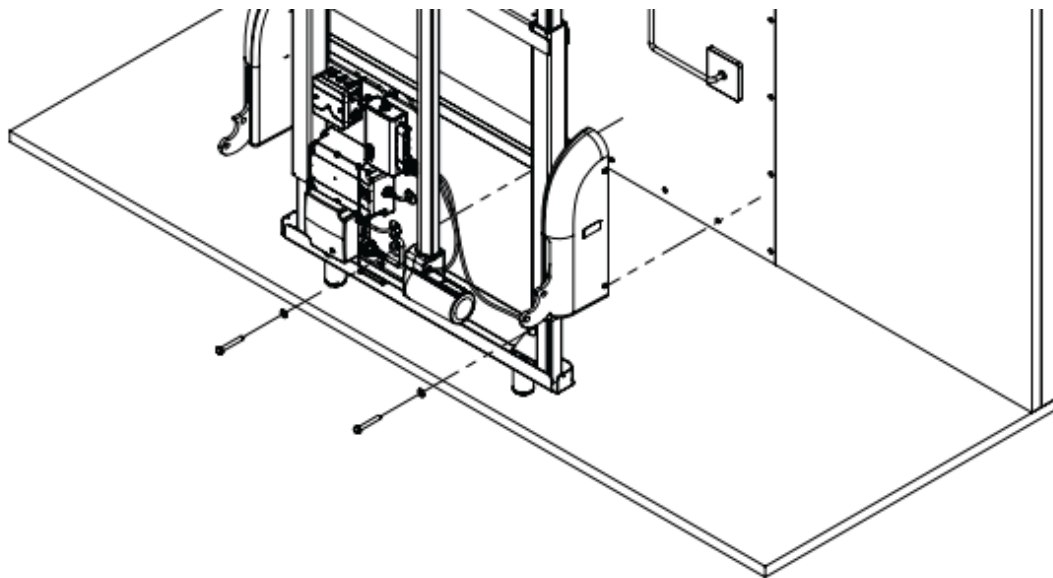

Fig 12.4b
- Using the screws and washers provided, No. 8 x 60 mm (2 23/64") coach screws, fit the top three first and then the lower two, as shown in Fig 12.4b.